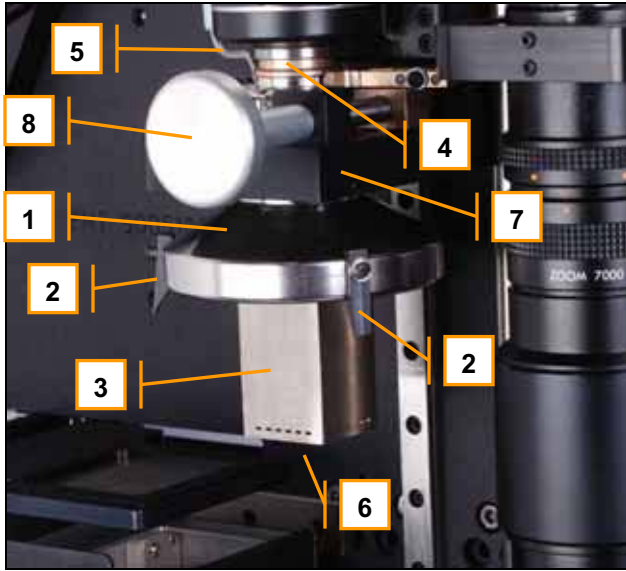

Figure 16: Lower Heater Head Details
The lower heater head assembly is supported by the theta adjustment bearings, which are mounted to the heater plate (7). The lower heater housing (1) rotates using the theta adjust (8). The heat path from the upper heater head to the lower heater head is closed by a spring-loaded bronze seal (4). Vacuum is generated by a venturi in the rear head enclosure. The vacuum tip (6), not visible in Fig. 16, receives vacuum through a Teflon tube connected to the vacuum transfer pipe (5). The vacuum tips are interchangeable for placing and removing different size and weight SMT components. Interchangeable nozzles (3) are held into the lower heater housing (1) by three spring-loaded clips (2).